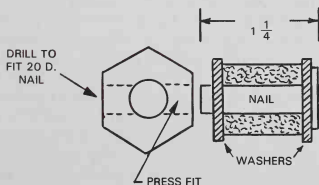

Fig. 18-36. The nails are forced into the holes in the nut to form the cores of the armature.
2. The armature may be made first. Refer to drawing in Fig. 18-36. Secure a 5/16 hexagon nut. Lay out, center punch, and drill in two opposite flat sides of the nut a hole the exact size of a 20d. nail. Cut two 20d. nails to length of about 1 1/4 inch. Place two 3/4 in. fiber washers over each nail and force the nails into the holes drilled in the nut. If the nails fit too loosely, place the end on an anvil and hit it a sharp blow with a hammer. This will knock the nail slightly out-of-round and will cause the nail to fit tightly in the holes.